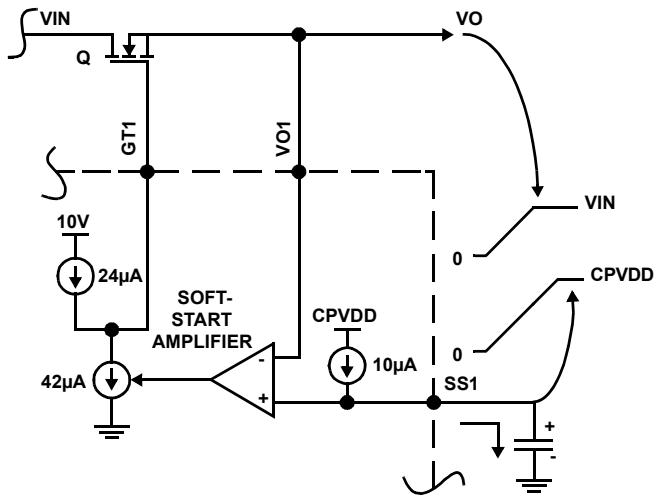

FIGURE 12. SOFT-START OPERATION
The output voltages are monitored through the Vo pins and slew up at a rate determined by the capacitors on the Soft-start (SS) pin, as illustrated in Figure 12. 24μA of gate charge current is available. The soft-start amplifier controls the output voltage by robbing some of the gate charge current thus slowing down the MOSFET enhancement. When the load voltage reaches its set level, as sensed by its respective UV pin through an external resistor divider, the Power Good (PG) output goes active.
I_{INRUSH} is the sum of the dc steady-state load current and the load capacitance charging current. If the dc steady-state load remains disabled until after the soft-start period expires ($\overline{PG_x}$ could be used as a load enable signal, for example), then only the capacitor charging current should be used as I_{INRUSH} . The C_{SS} value should always be more than $(1/2.4)$ of that of C_{iss} of the MOSFET to ensure proper soft-start operation. This is because the C_{iss} is charged from $24\mu\text{A}$ current source whereas the C_{SS} gets charged from a $10\mu\text{A}$ current source (please refer to Figure 12). In order to make sure both V_{ss} and V_o track during the soft-start, this condition is necessary.